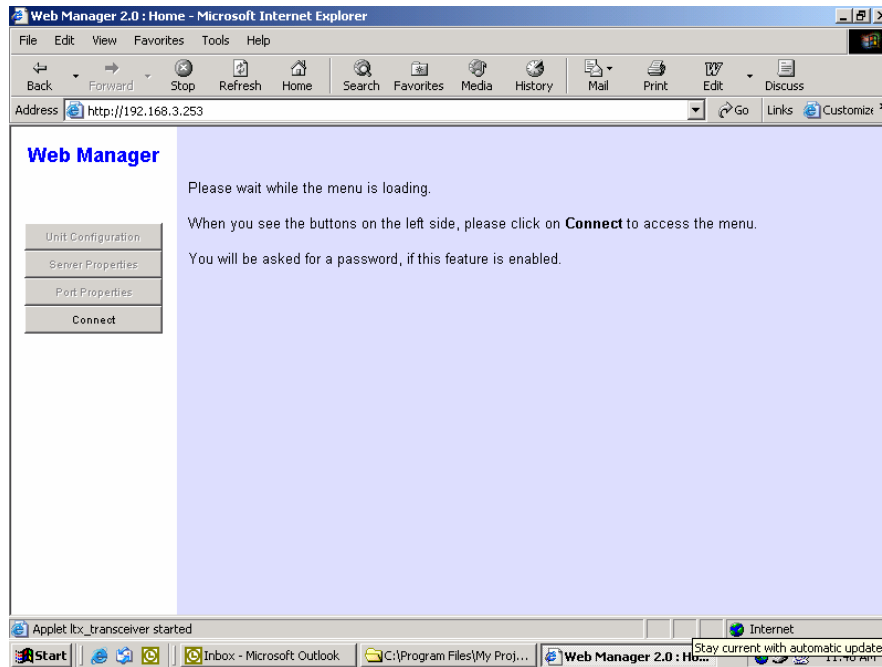

Fig. 5 Web Browser Login
- 1 – Type the **SF-10's** IP address into the Web browser's URL (Address/Location) field. Once you have connected to the **SF-10**, you will see the Web manager interface. See Fig. 5.